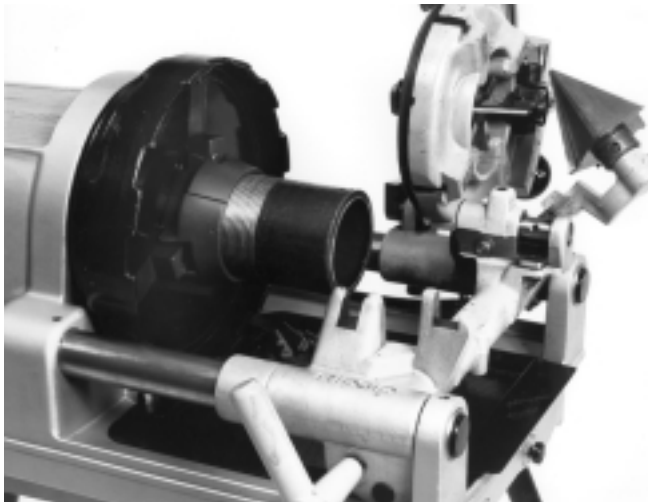

Figure 18 – No. 419 Nipple Chuck Installed and Ready to Thread
4. Install nipple chuck into machine chuck. Make sure that jaws are in slots up against stops of chuck body. (Figure 18)